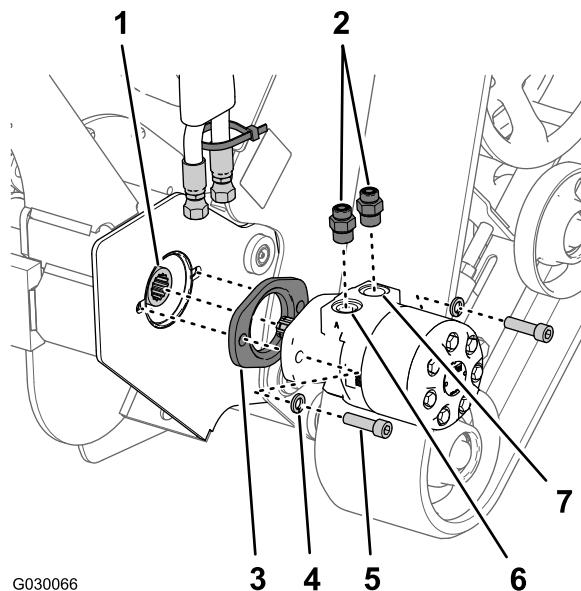

Figure 4
1. Slide the new coupler onto the trencher-drive shaft (Figure 4).
2. Assemble the 2 straight hydraulic fittings into the new hydraulic motor for the trencher drive (Figure 4) and torque the fittings to 135 to 164 N·m (99 to 121 ft-lb).
- Assemble the spacer plate over the new hydraulic motor with the inset step of the spacer plate against the mounting face of the motor (Figure 4).
- Align the splines of the new hydraulic motor with the splines of the coupler for the trencher-drive shaft (Figure 4).
- Align the holes in the hydraulic motor and the spacer plate with the holes in the head of the trencher (Figure 4).
- Assemble the hydraulic motor and spacer to the head of the trencher (Figure 4) with the 2 socket-head bolts (1/2 x 1-3/4 inches) and 2 lock washers (3/4 inch).